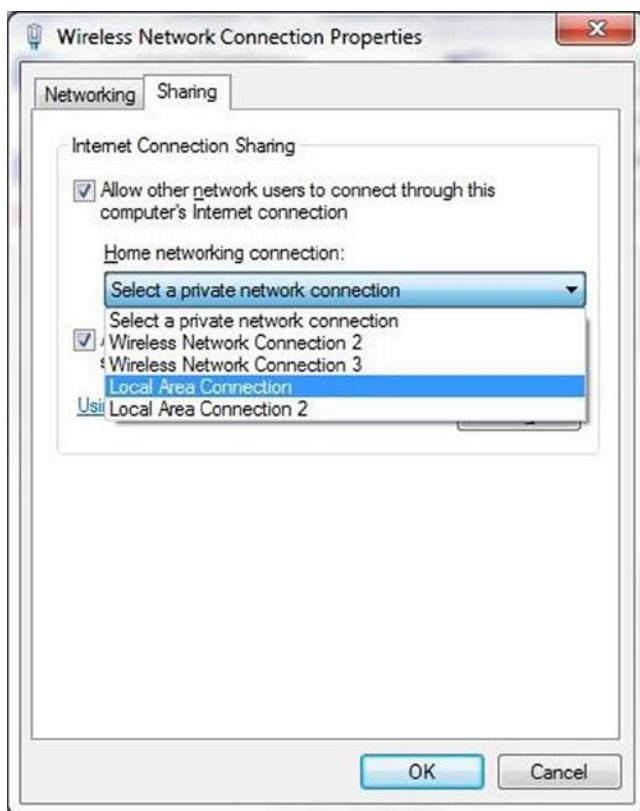

Figure 5-9. Sharing the Internet connection
7. To share the Internet connection, access your adapters again by choosing Control Panel ➤ Network and Internet ➤ Network and Sharing Center and clicking Change Adapter Settings. But now, right-click in the adapter of your computer that provides Internet access to you and select Properties. Then click in the Sharing tab and check the option to share the Internet in the listbox. Figure 5-9 shows an example that uses a wireless adapter to access the Internet and a Local Area Connection for Intel Galileo.